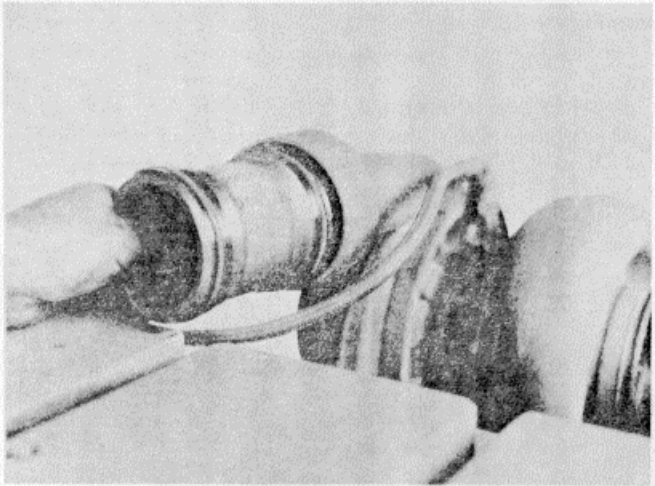

Figure 16N-101. Install the Air Crossover Tube
8. Put the air crossover connection with the gasket over the crossover tube. Tighten the capscrews to 30 to 35 ft-lbs (41 to 47 N.m) torque, Figure 16N-102.